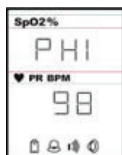

Fig. 11
After SpO₂ low alarm setting, press the right button, and you will see the screen shown as **Fig. 11** for setting PR high alarm. The high alarm (PR) setting range is: 31-254 (bpm).